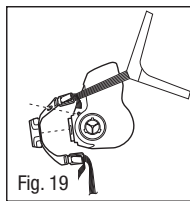

Fig. 19
1. Remove valve cover assembly from facepiece (Fig.19).
2. Pry or pull valve cover assembly from facepiece exhalation port (Fig. 19).